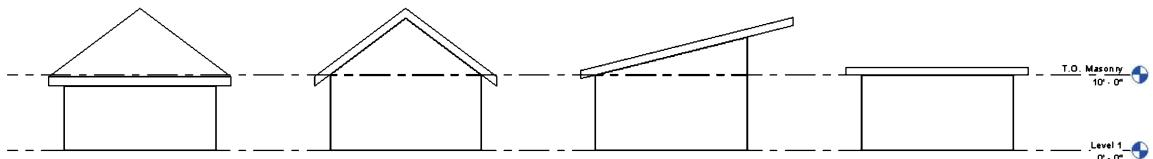

FIGURE 8-1.13 South elevation – flat roof
54. Switch to the South elevation view (Figure 8-1.13).